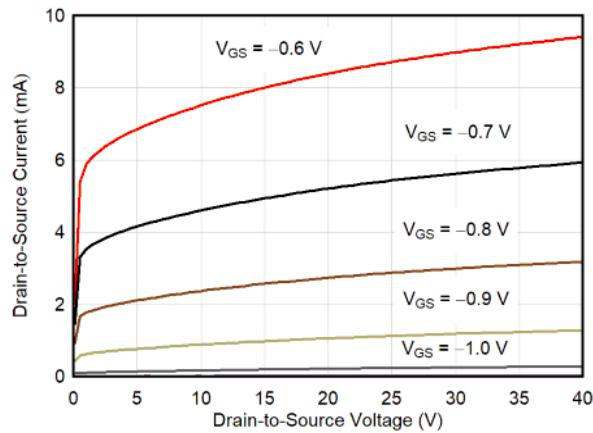

Figure 6-3. Drain-to-Source Current vs Drain-to-Source Voltage
• Changed Figure 6-3, Drain-to-Source Current vs Drain-to-Source Voltage , to show correct $V_{GS}$ values.....	<a href="#">6</a>